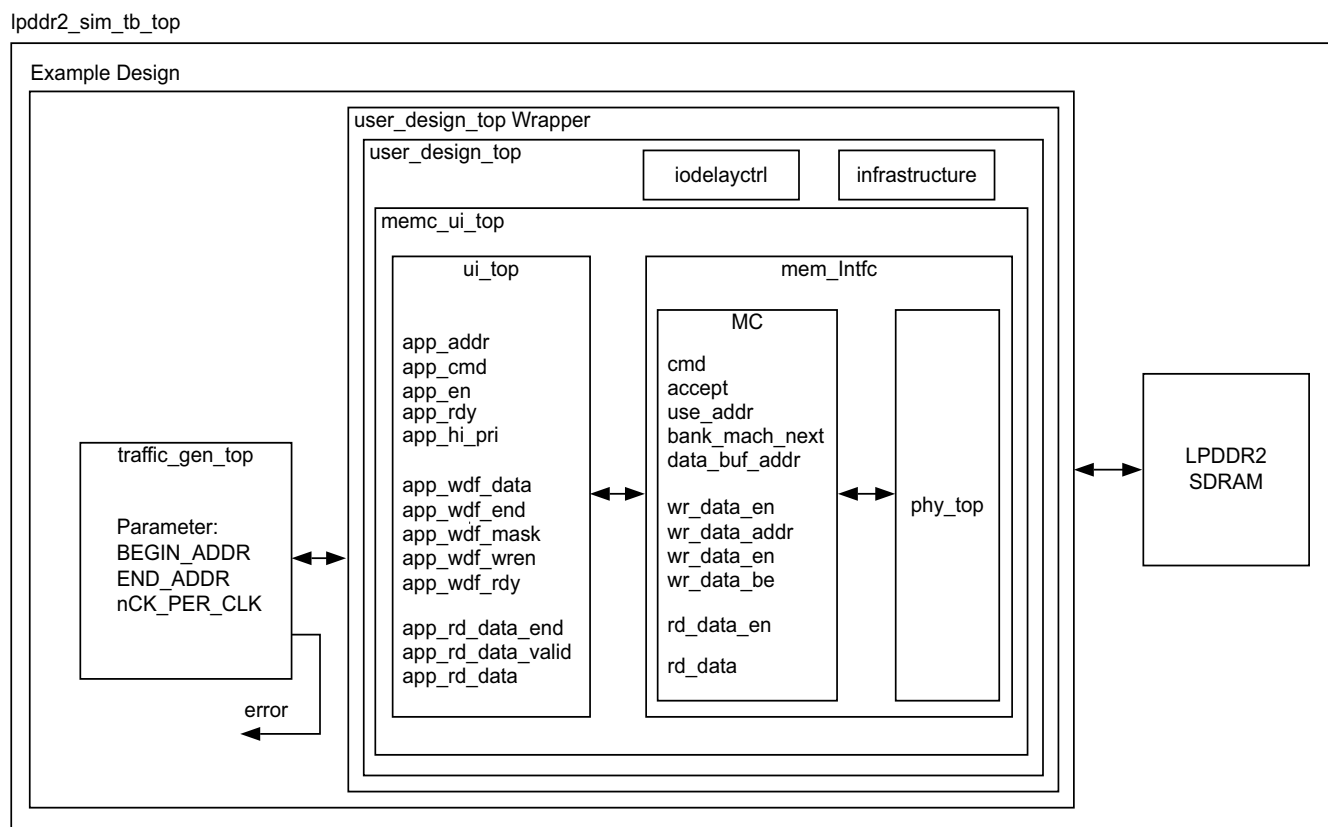

Figure 4-37: Synthesizable Example Design Block Diagram
The MIG tool provides a synthesizable test bench to generate various traffic data patterns to the Memory Controller (MC). This test bench consists of a `memc_ui_top` wrapper, a `traffic_generator` that generates traffic patterns through the user interface to a `ui_top` core, and an infrastructure core that provides clock resources to the `memc_ui_top` core. A block diagram of the example design test bench is shown in Figure 4-37.